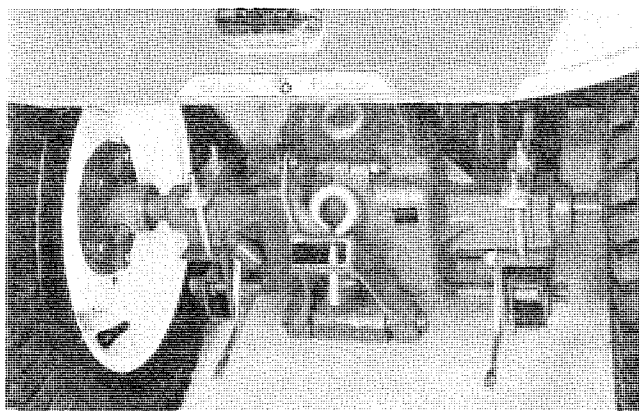

FIG. 1
1. Install the mounting bracket assembly (see Fig. 1). The bracket should be centered on the axle housing. Secure in place with the links and $\frac{3}{8}$ -16 x $3\frac{1}{2}$ " carriage bolts and $\frac{3}{8}$ -16 elastic stop nuts.
Angle Spacers, Part No. 7713 (Item #14 on the exploded view drawing) are used to fill the gap between the bolts and the axle housing. The spacers are not used on the Wheel-A-Matic (Automatic Transmission) type tractors. See Fig. 1. The frame cross shaft fits in the end hole, as shown on all tractors that have a $45\frac{1}{2}$ " wheel base and the Commando 800. All others use the second hole.
2. Slide the frame assembly under the tractor. Insert the rear cross shaft on the frame assembly in the mounting bracket and latch. Be sure the index lever on the frame assembly is up and out of the way before the frame is locked in position. See Fig. 1.